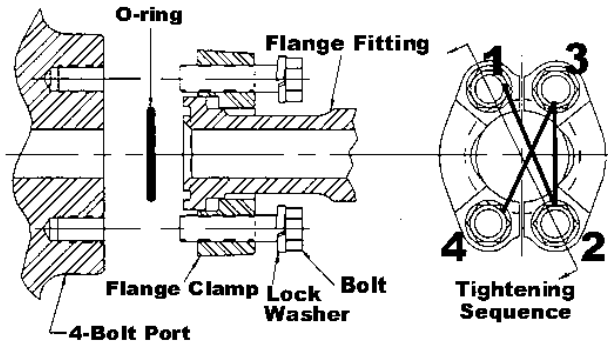

Fig.A12 Four Bolt Flange Fitting Assembly
6. Gradually tighten bolts in equal increments, alternating in a diagonal pattern, to recommended torque listed in Table A7 or A8. See Fig.A12.